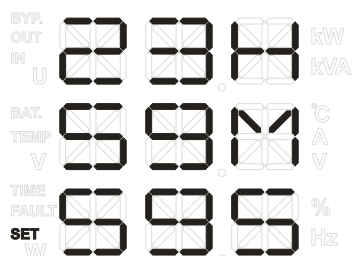

Figure4-11 Hour, minute and second setting
Press  $\text{①}$  (ON) button or  $\text{②}$  (OFF) button more than 1s to move up or move down the setting place, short press  $\text{■}$  (select) button to change from 0 to 9 circularly. If you do not confirm the setting, 20s later, it will exit the setting page automatically. Corresponding LCD display is as shown in Figure4-11.